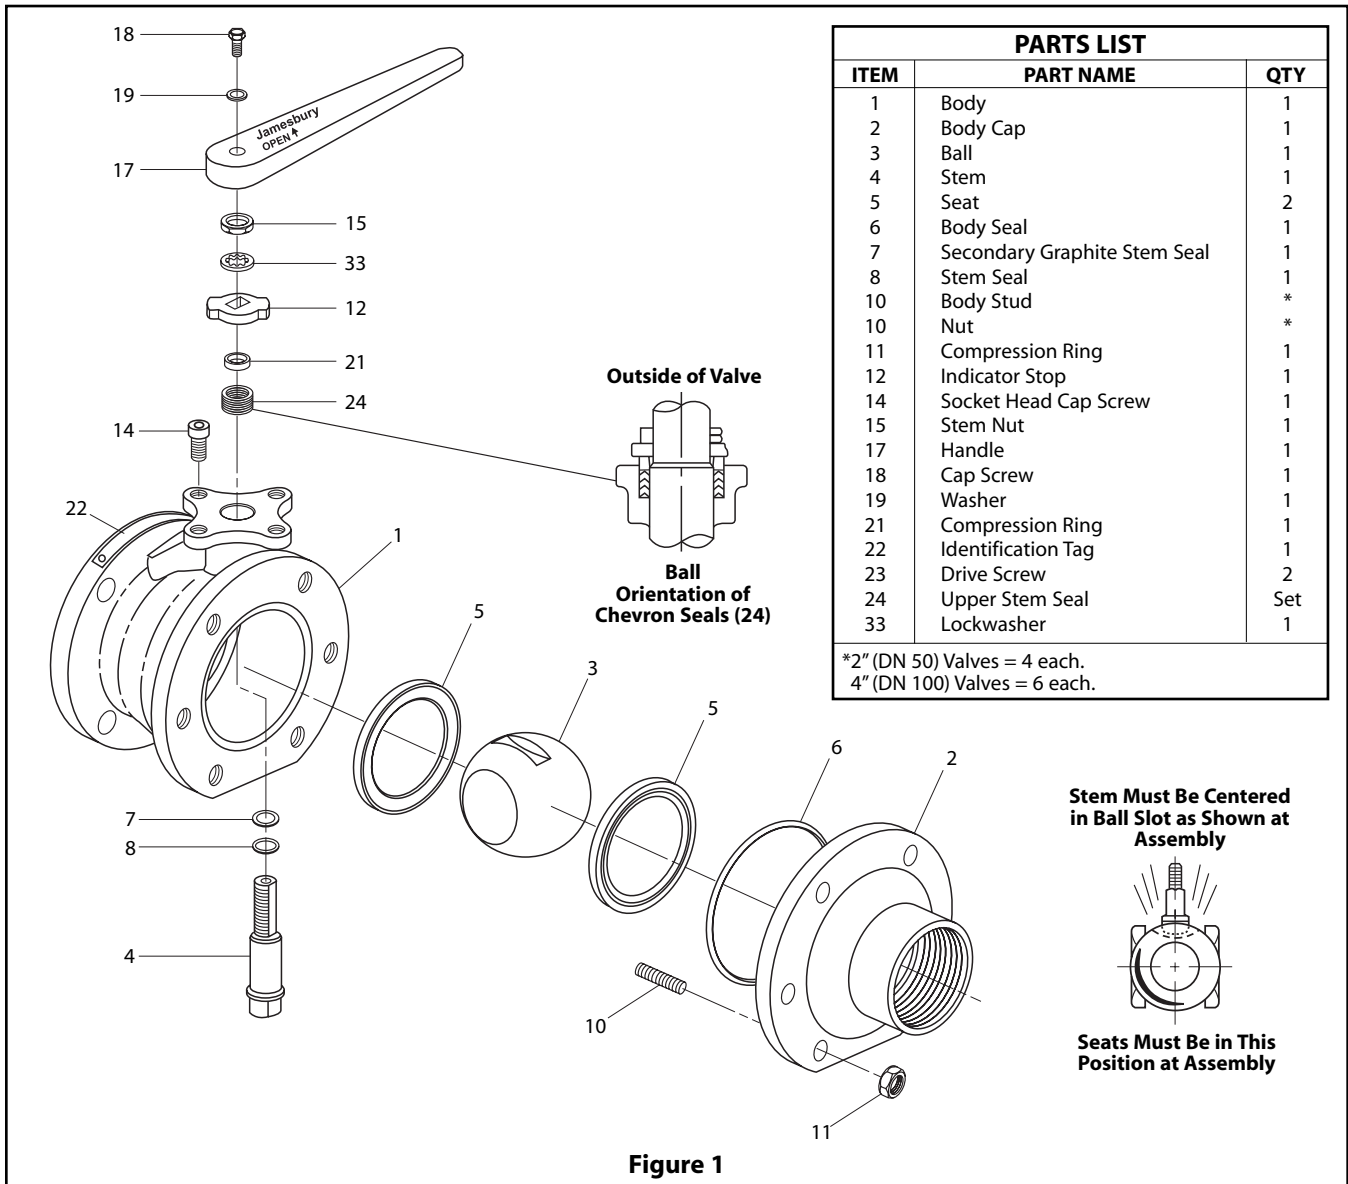

Figure 1
1. Standing the body (1) carefully on end, drop in one seat (5) with the flat surface on the bottom. See exploded view (**Figure 1**).
2. Inset the secondary stem seal (7) and the bottom stem seal (8) into the body from the inside (**see Figure 1**). Insert the stem (4) from inside the valve body through the seals and bonnet of the valve. Next, insert the top stem seal (24), the compression ring (21), and the indicator stop (12) making sure that the side marked "BOTTOM" is down. Add lockwasher (33), and screw on the stem nut (15) with the side marked "TOP" being up.
4. Insert the ball (3) rotating it onto the stem (4) in the closed position. Gently rock the ball to make sure the stem is centered in the ball slot (**see Figure 1, stem-to-ball location**).
5. Gently press the body seal (6) into the machined recess of the body (1).
6. Insert the second seat (5) into the body cap (2) so that the sealing surface of the seat is toward the ball (**see Figure 1**).
7. Insert the body cap (2). Lubricate the nuts and studs with Never-Seez® or equivalent. Install nuts (11) on the body studs (10) and tighten sequentially as shown in the sequential diagram and torque chart.